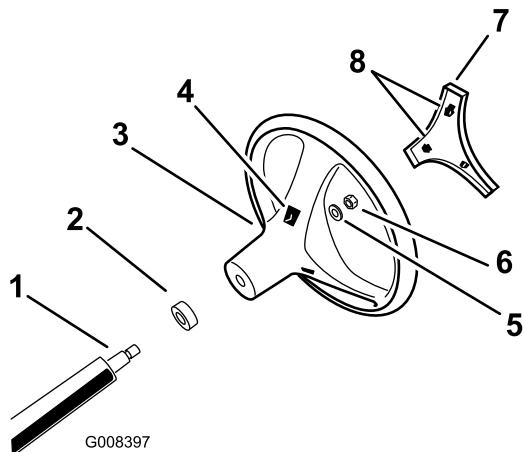

Figure 3
4. Secure the steering wheel to the shaft with the locknut (Figure 3). Torque the locknut to 24 to 29 N·m (18 to 22 ft-lb)
5. Align the tabs of the cover with the slots in the steering wheel, and snap the cover onto the steering-wheel hub (Figure 3).